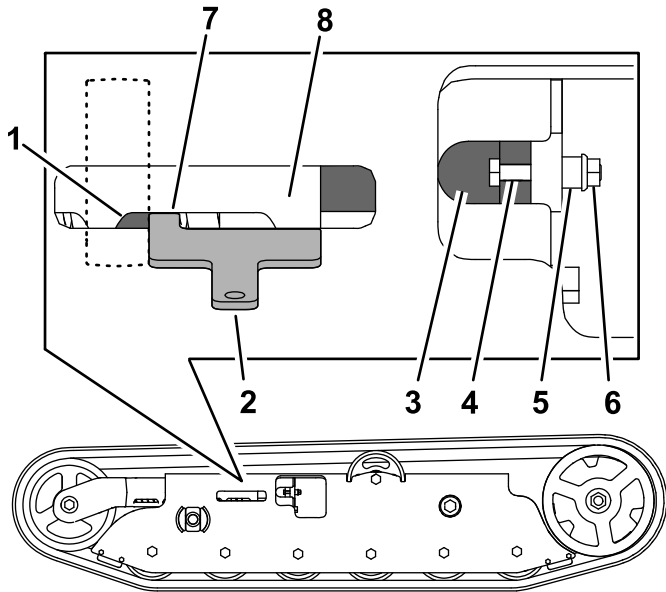
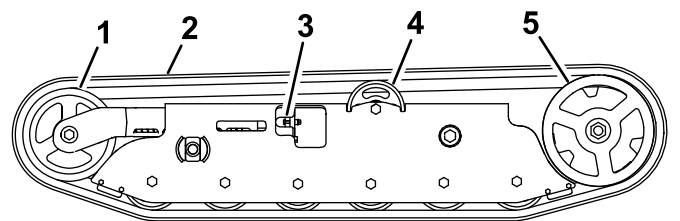

Figure 38
Figure 39
If you place the tab of the tensioning tool along the rear edge of the tension nut, the other end of the tensioning tool should align with the edge of the tension arm as shown in Figure 38. If the distance is not correct, adjust the track tension using the following procedure:
6. Remove the bolt (1/4 x 1-5/8 inches), spacer, and nut (Figure 38).
7. Turn the tensioning bolt to adjust the distance between the tension nut and the end tangent of the tension tube until the distance is correct, as shown in Figure 38.
8. Align the closest notch in the tensioning bolt to the bolt hole and secure the tensioning bolt with the bolt (1/4 x 1-5/8 inches), spacer, and nut (Figure 38).
5. Release the drive tension by turning the tensioning screw clockwise (Figure 38 and Figure 39).
7. When the track is off the front wheel, remove it from the drive sprocket and road wheels (Figure 39).
9. Beginning at the drive sprocket, coil the new track around the sprocket, ensuring that the lugs on the track fit between the spacers on the sprocket (Figure 39).
10. Push the track under the lugs and between the road wheels (Figure 39).
5. Remove the skid plate (Figure 38).